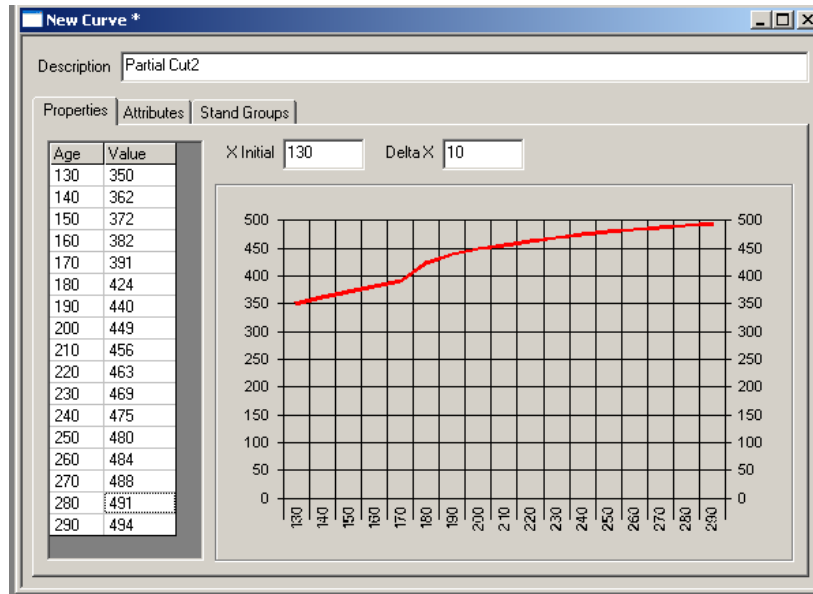

Figure 52: Partial Cut2 curve.
The Partial Cut curve is shown in Figure 52.
- 10.1.3 *The Forest Planning Studio – Select Polygons* window should appear. To find polygon number 156 enter the number after the equal sign. Select *Execute*. Polygon 156 should appear in the lower box of the window as in figure 52.